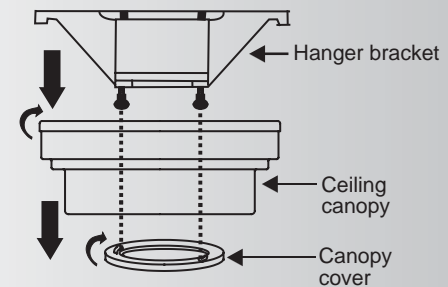

Fig. 5
Step 1. Remove the decorative canopy bottom cover from the canopy by turning the cover counter clockwise. (Fig. 5)
Step 2. Remove the hanger bracket from the canopy by loosening the two screws on the bottom of the hanging bracket a half turn from the screw head and turning the canopy counter clockwise. (Fig. 5)